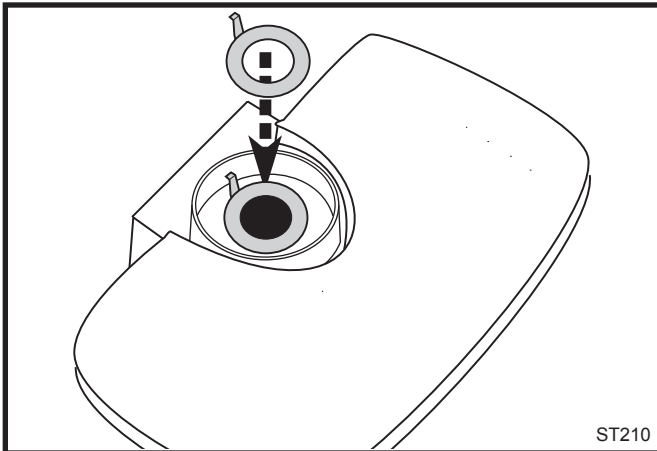

Fig. 16 Install the restrictor plate only if required for the venting configuration. Refer to Page 8.
1. Install the Restrictor Plate. Consult the 'Vent Run Specifications' on Page 8 to determine whether the restrictor plate is needed. If so, put the restrictor plate in place within the inner flue collar as shown in Figure 16.
1. **Install the Restrictor Plate.** Consult the 'Vent Run Specifications' on Page 8 to determine whether the restrictor plate is needed. If so, put the restrictor plate in place within the inner flue collar. (Fig. 16)